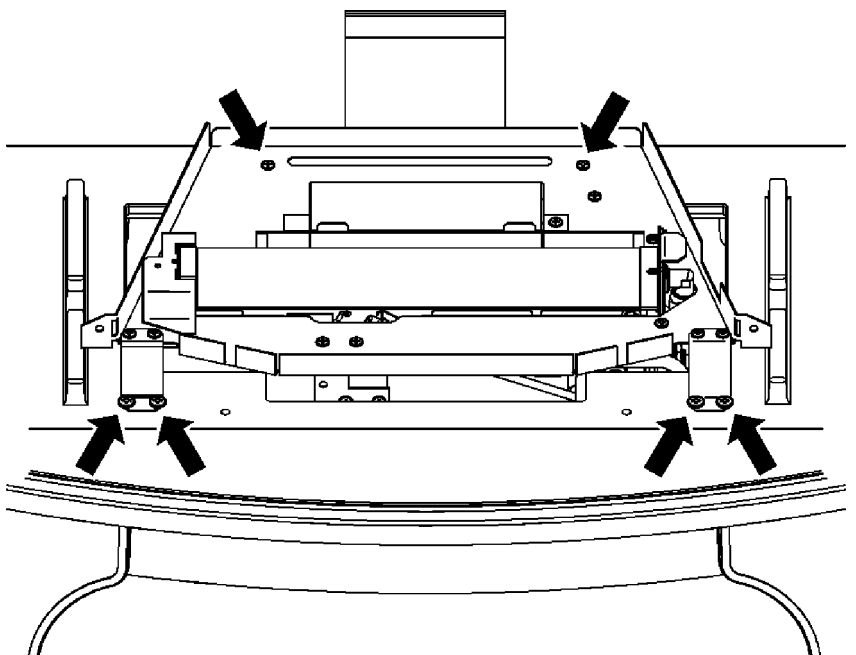

Figure 7.
6. Locate the burner assembly inside the stove body as in figure 7 (The outer body of the stove is not shown for clarity). Secure using the six No.4 x 10mmscrews supplied.